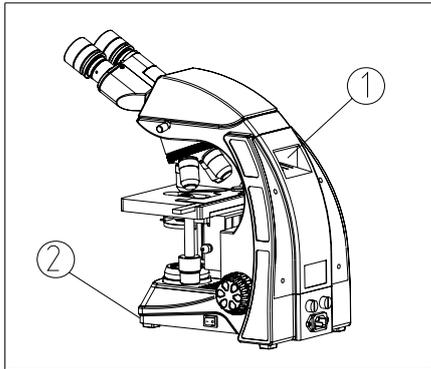

Fig. 1
3. When moving the microscope, use both hands to hold its back hand-clasping ① and the front base ②, and lay it down carefully (see Fig. 1).